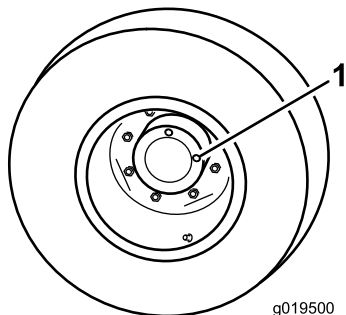

Figure 65
1. With the machine on a level surface, position the wheel so that 1 check plug (Figure 65) is at the 12 o'clock position and the other is at the 3 o'clock position.
1. Check/drain plug (2)
2. Remove the plug at the 3 o'clock position (Figure 65).